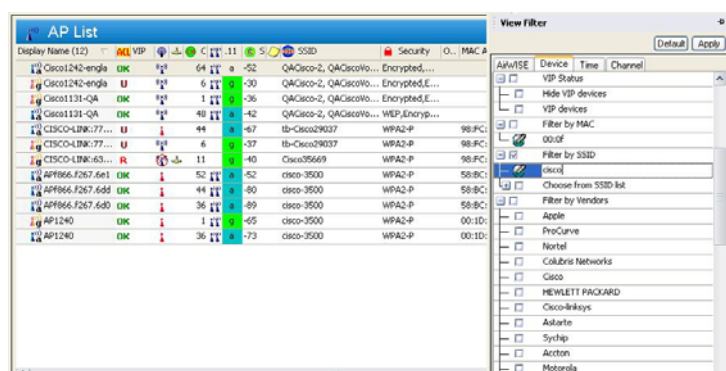

Figure 4-16: Filter by SSID
- 3) Under Filter by SSID, double click to enter SSID. You can enter a partial SSID e.g. cisco, and it is not case sensitive. See Figure 4-16 for reference.